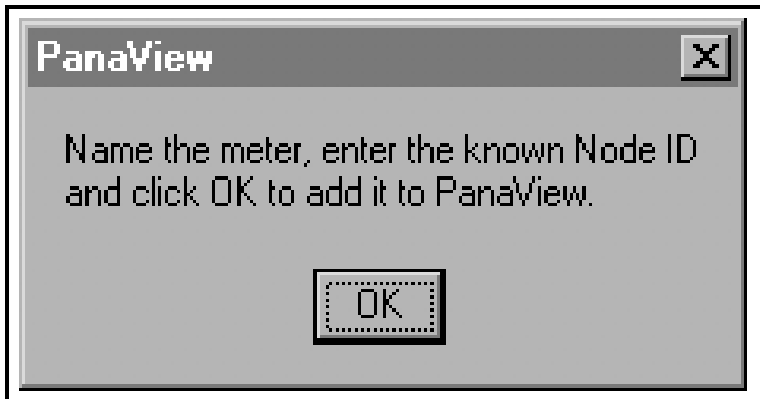

Figure 8: Confirmation Dialog Box
- At the dialog box shown in Figure 8 on the previous page, click on the [OK] option button to add the meter and configure it. The dialog box shown in Figure 9 below appears.